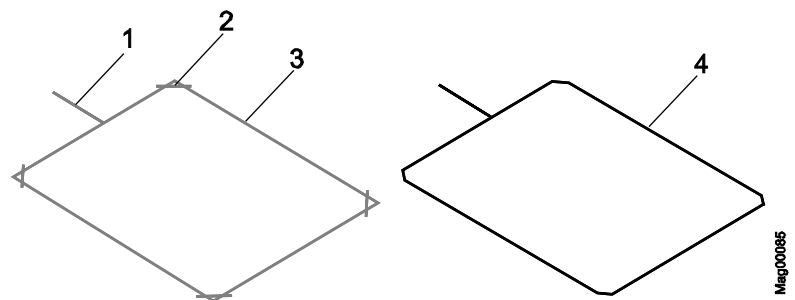

Fig. 17: Installing induction loop in bitumen, asphalt, or concrete
1. Cut a 50 mm deep groove into the surface or asphalt using a cutting disc. The groove must be equally deep at every point. According to Fig. 17 the corners of the groove must be cut in a 45° angle.